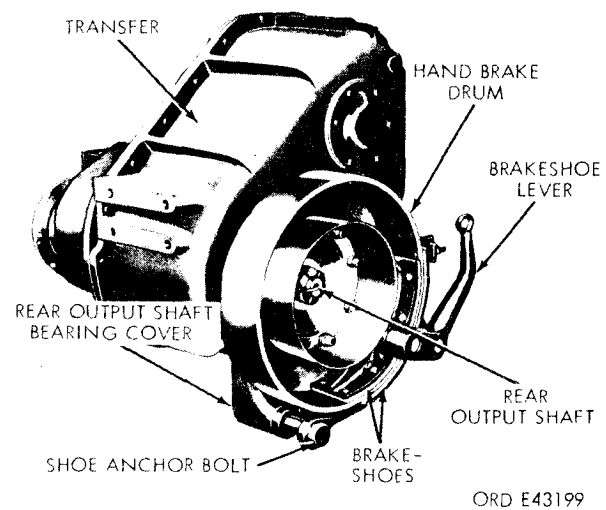

Figure 2-176. Handbrake mounted to rear of transfer.
*b. Hand Brake.* Handbrake components include a brake drum (fig. 2-176) and a pair of brake shoes mounted at the rear of the transfer. In addition, a cable is connected to the handbrake lever in the cab. The drum is bolted to the transfer rear output shaft. The two brakeshoes are pinned together and then bolted to a bracket extending from the transfer rear output shaft bearing cover.